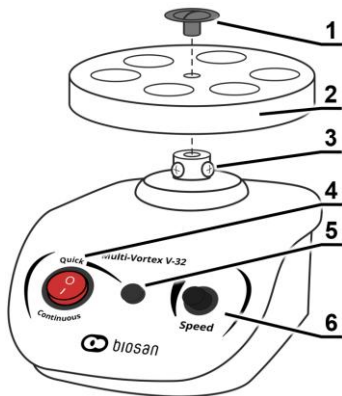

Figure 2. V-32, front view
- Using a flat screwdriver, unscrew black screw at the middle of the platform (fig. 2/1) and remove it together with the washer.
- Using a Phillips screwdriver, loosen two fixing screws (fig. 2/3) on the rotor under the platform.
- Remove and replace the platform (fig. 2/2), fix the platform in place in opposite order.
6.4.1. Turn the **I/O** switch (fig. 2/4) to position **Continuous**.
6.4.2. Set the required speed by turning the **Speed** knob (fig. 2/6).
6.5.1. Turn the **I/O** switch (fig. 2/4) to position **O/Quick**.
6.5.2. Set the required speed by turning the **Speed** knob (fig. 2/6).
6.5.3. Position the tube on the vortex head, press and hold **Quick** button (fig. 2/5) for vortexing. Rotor stops when the button is released.